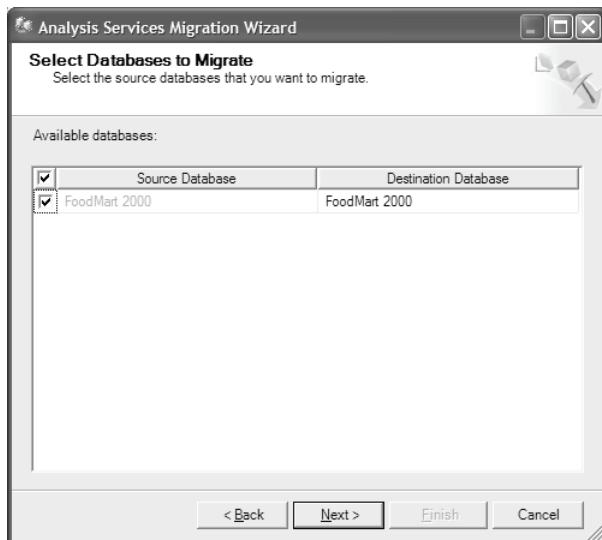

Figure B.6 Select the SSAS 2005 database(s) to migrate and specify the name(s) of the destination database.
- In the Select Databases to Migrate step (Figure B.6), accept the default settings. By default, the Migration Wizard will migrate all legacy databases found on the SSAS 2000 server. If needed, you can change the names of the destination SSAS 2005 databases.